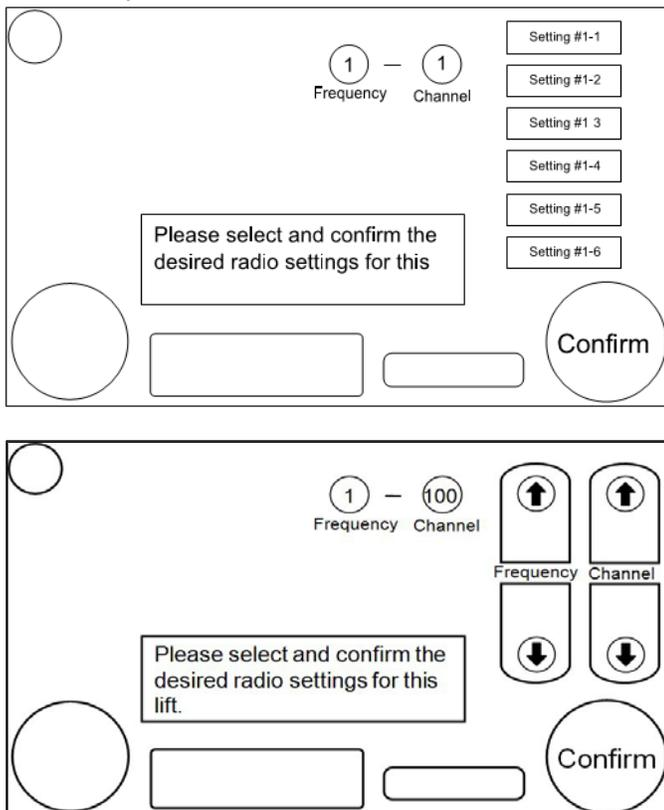

Fig. 7: Selecting screen communication channel
- Now move to the second lift unit (the units can be turned on in any order) and turn the master on/off switch to the **ON** position. The same screen shown in Fig. 7 above will appear after the screen has completed its startup.